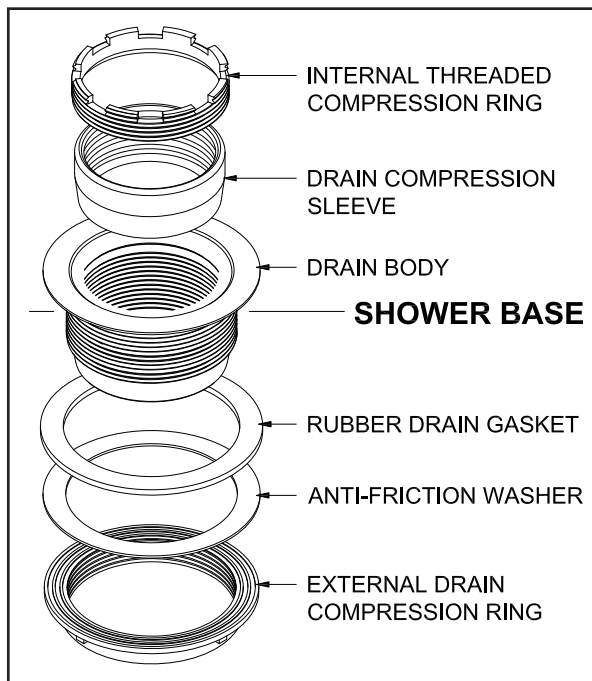

FIG. 4- DRAIN ASSEMBLY P/N: 900520
3. Disassemble the Drain Assembly as shown (**SEE FIG. 4**). Set aside the Internal Threaded Compression Ring and Drain Compression Sleeve; they will be installed later.